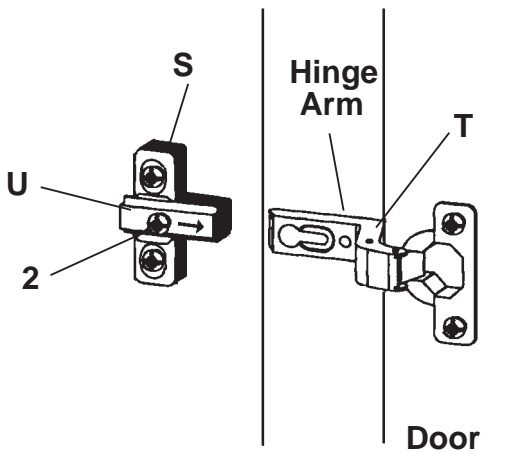
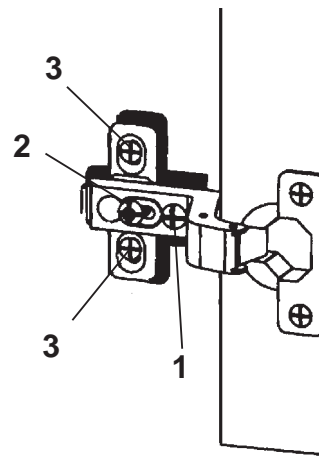

Fig. 13
Fig. 13a
13. To attach the Doors to the unit, slide the Hinge arms onto the Plates as shown in Figure 13. Tighten the screw marked "2" in Figure 13a to fasten the Hinge.
The Doors may need to be adjusted so the all of the spaces between the doors and sides are equal. Follow the instructions in Figure 13a.